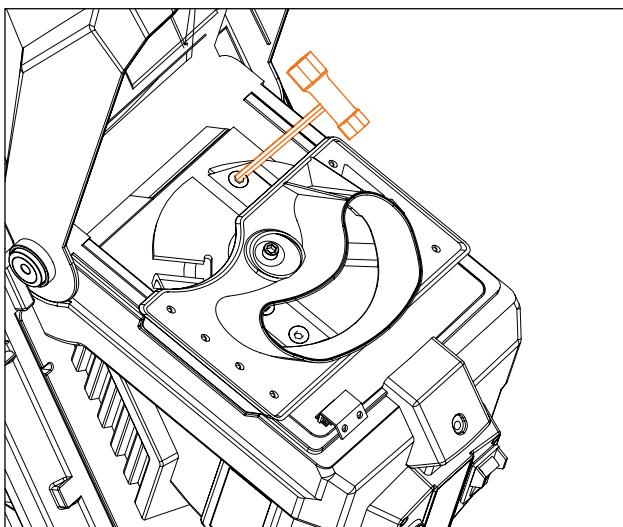

FIG. 11
- 5** Turn the blade plate 180°, use the hexagonal wrench to loosen and remove the other hexagon socket head screw (**FIG. 11**).